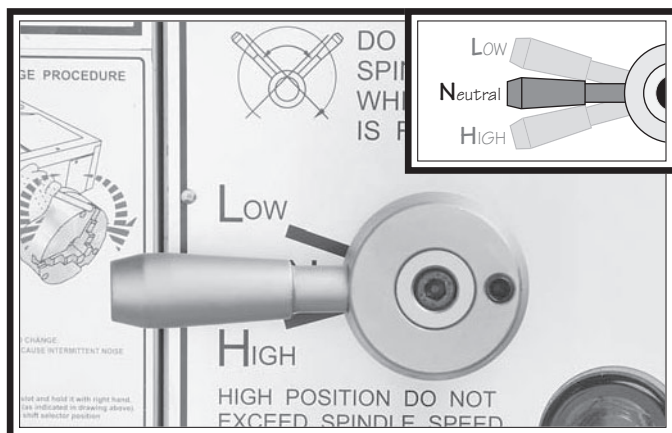

Figure 19. Gearbox range lever in middle position.
8. Move the gearbox range lever to the middle (neutral) position, as shown in **Figure 19**.